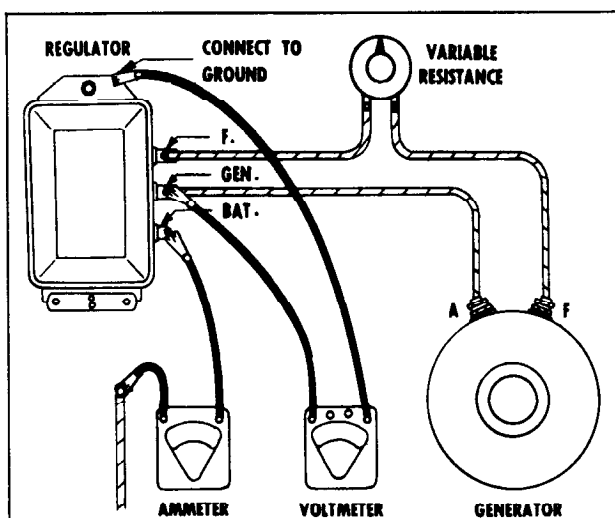

Fig. 13-14 Checking Cutout Relay Closing Voltage
1. Connect the positive lead of a voltmeter on the regulator "GEN" terminal and the negative lead to ground. (Fig. 13-14)